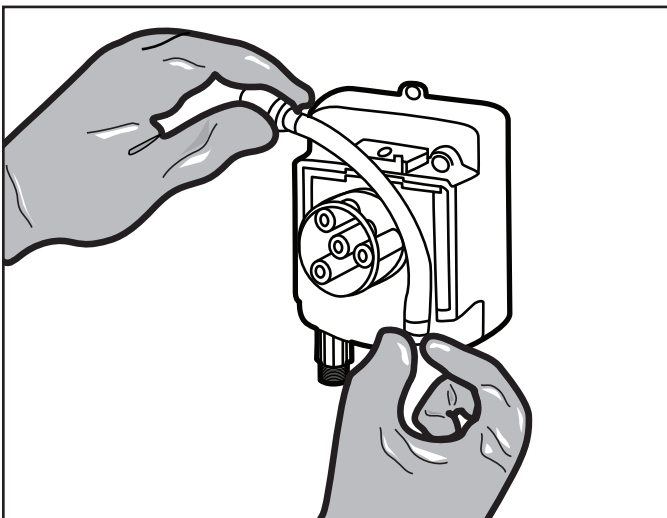

**Figure 19. Remove Roller Assembly**
- Release the fittings from the slots to remove the tube. See Figure 19.